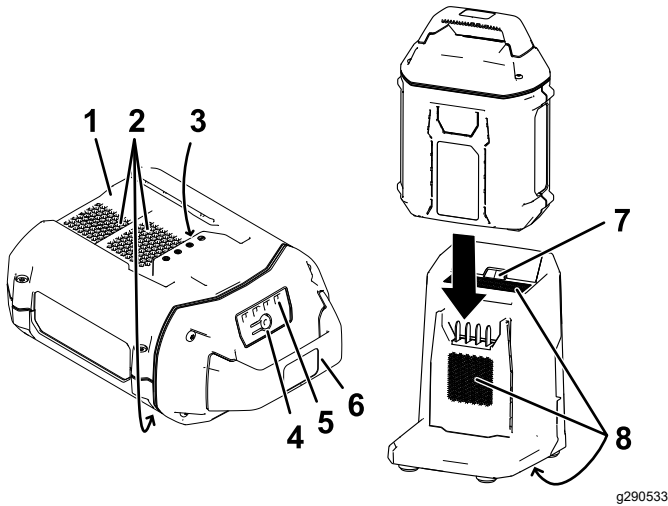

Figure 26
2. Line up the cavity in the battery pack (Figure 26) with the tongue on the charger.
4. Slide the battery pack into the charger until it is fully seated (Figure 26).